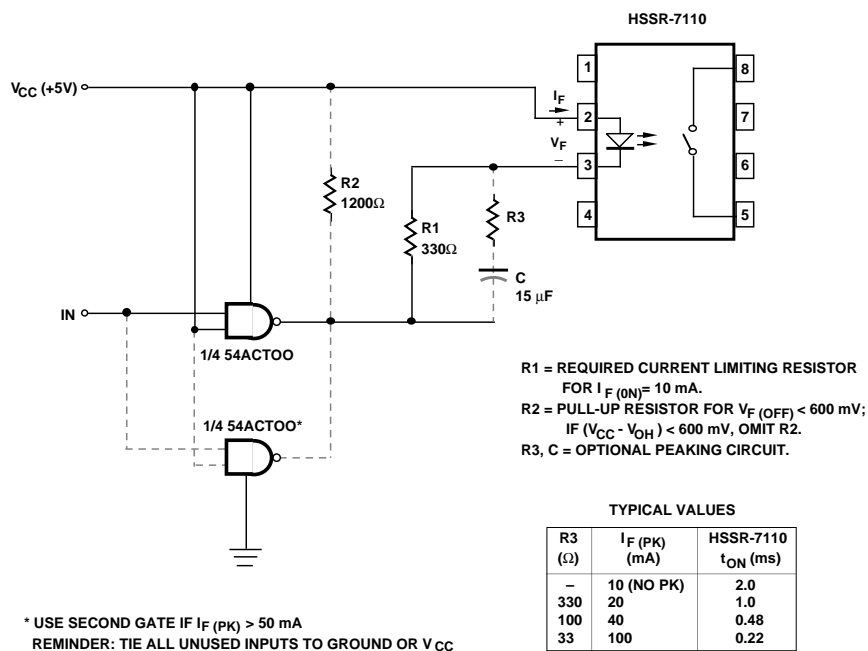

Figure 1. Recommended Input Circuit.
6. For a faster turn-on time, the optional peaking circuit shown in Figure 1 may be implemented.
Input Circuit: The drive circuit of the electro-mechanical relay coil needs to be modified so that the average forward current driving the LED of the HSSR-7110 does not exceed 20 mA. A nominal forward drive current of 10 mA is recommended. A recommended drive circuit with 5 volt VCC and CMOS logic gates is shown in Figure 1. If higher VCC voltages are used, adjust the current limiting resistor to a nominal LED forward current of 10 mA. One important consideration to note is that when the LED is turned off, no more than 0.6 volt forward bias should be applied across the LED. Even a few microamps of current may be sufficient to turn on the HSSR-7110, although it may take a considerable time. The drive circuit should maintain at least 5 mA of LED current during the ON condition. If the LED forward current is less than the 5 mA level, it will cause the HSSR-7110 to turn on with a longer delay. In addition, the power dissipation in the output power MOSFETs increases, which, in turn, may violate the power dissipation guidelines and affect the reliability of the device.